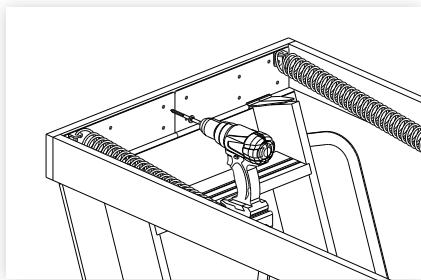

figure 8
5. From a step ladder or work platform (not the attic ladder), fix the hinge end of the ladder to the ceiling framing through the predrilled holes in the hinge plate (figure 8). Use the timbertight screws supplied. Do not fit tight yet.